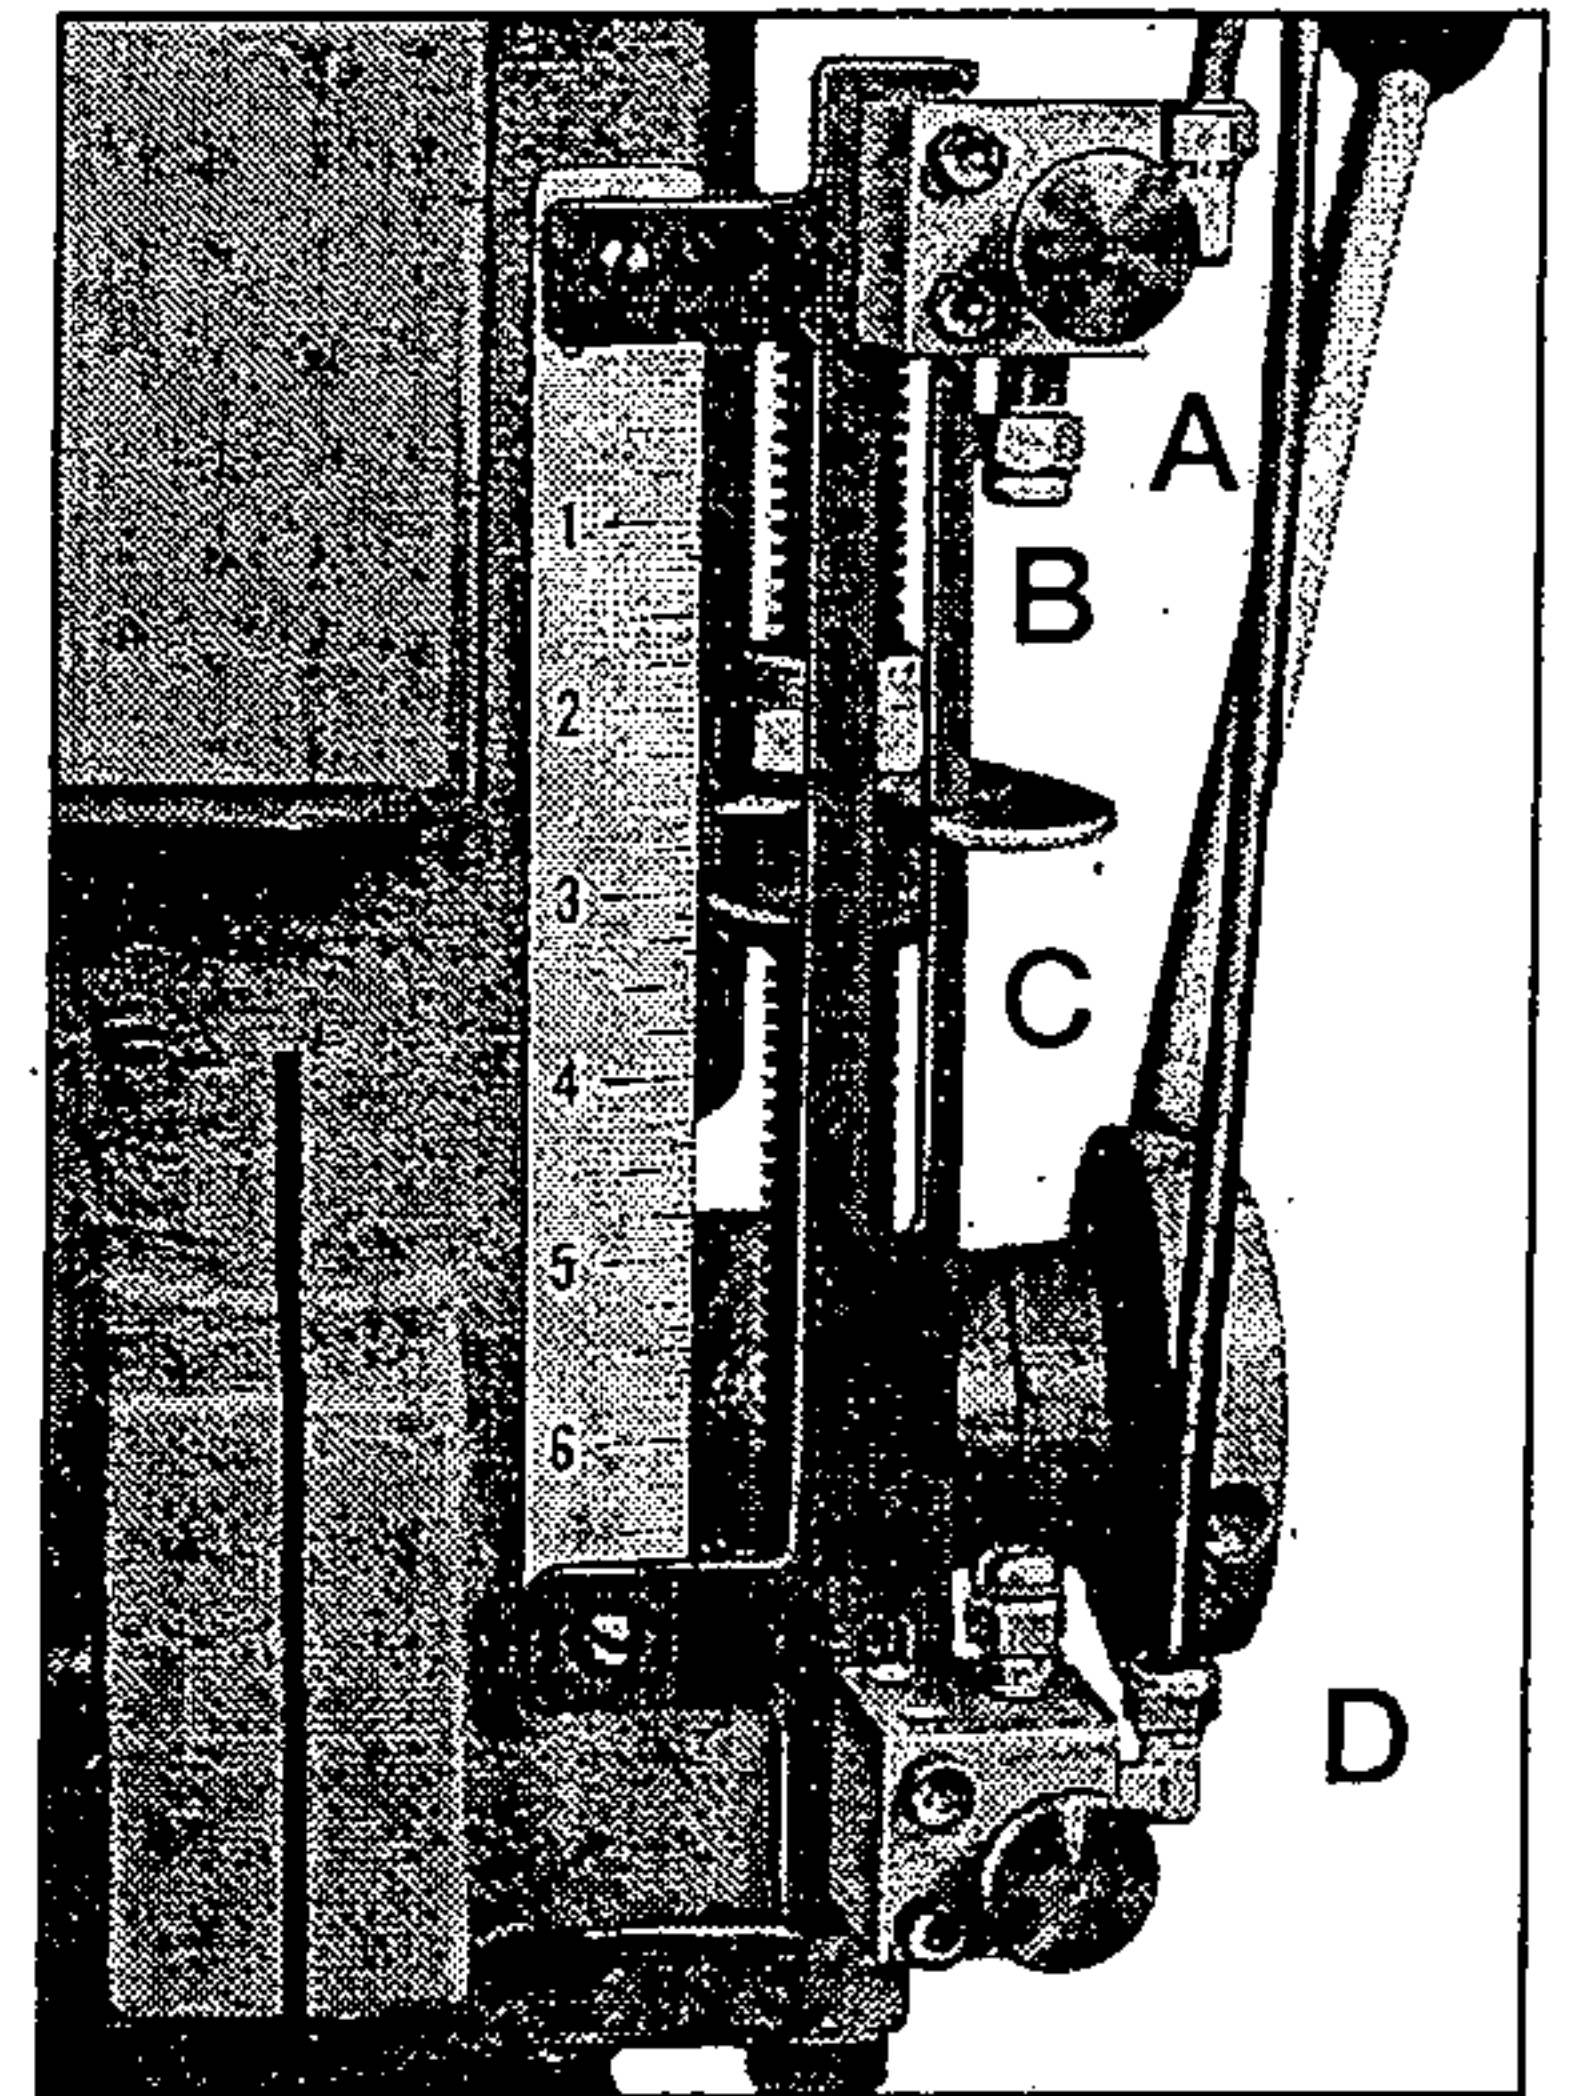

Figure 17
2. Push and hold large button (A, fig. 17) on upper valve until air feed is at bottom of stroke and air has bled out of unit.
1. With the air turned off, move upper valve (A, fig. 17) to top of support bracket and lock in place.
2. With spindle at top of stroke, lower upper valve (A, fig. 17) until button (B) is compressed $\frac{1}{16}$ " against kick-out arm (C). Tighten screws securely.
4. Feed stroke may be stopped temporarily by pushing and holding large button on lower valve (D). Cycling resumes when button is released.